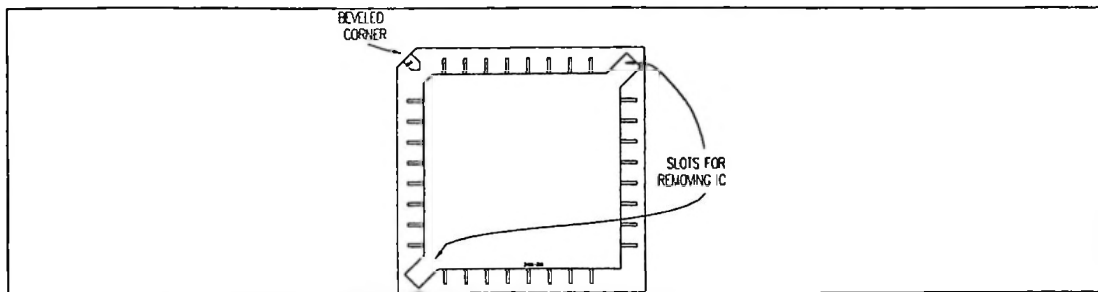

Figure 5-10 Top View of Firmware IC Socket
- Before removal, notice that the IC has one corner which is beveled and the IC socket has a pointer etched in the top which is pointing to the beveled corner. See Figure 5-10.